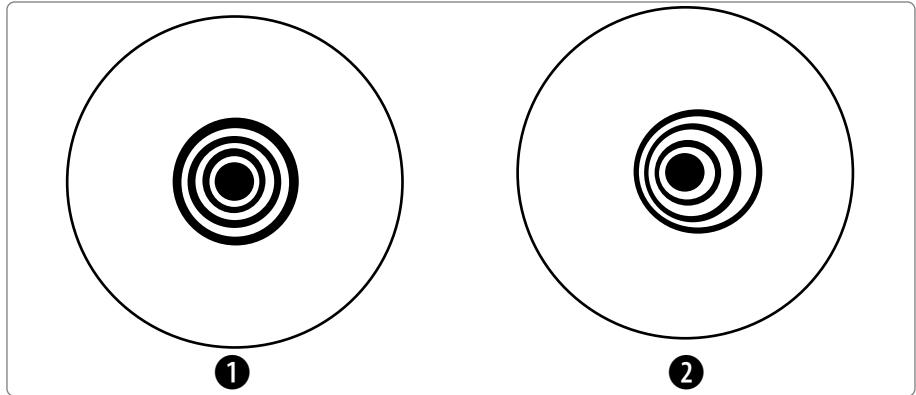

Fig. 32: Correct (1) and incorrect (2) collimation as viewed during a star test.
5. Bring the star's image slowly in and out of focus until you see several disks surrounding the star's center. If steps 1 through 3 were done correctly, you will see concentric (centered with respect to each other) circles (1, Fig. 32).
An improperly collimated instrument will reveal oblong or elongated circles (2, Fig. 32). Adjust the 3 collimating screws on the primary mirror housing until the circles are concentric on either side of the focus.